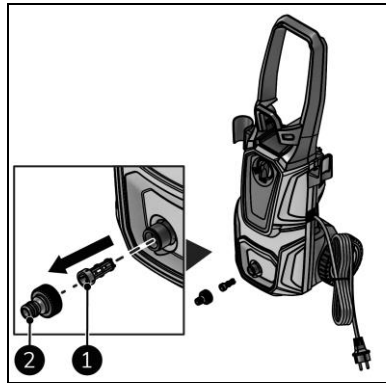

Figure 20
3. Unscrew the garden hose coupling (Figure 20, pos. 2).
4. Pull out the filter (Figure 20, pos. 1).